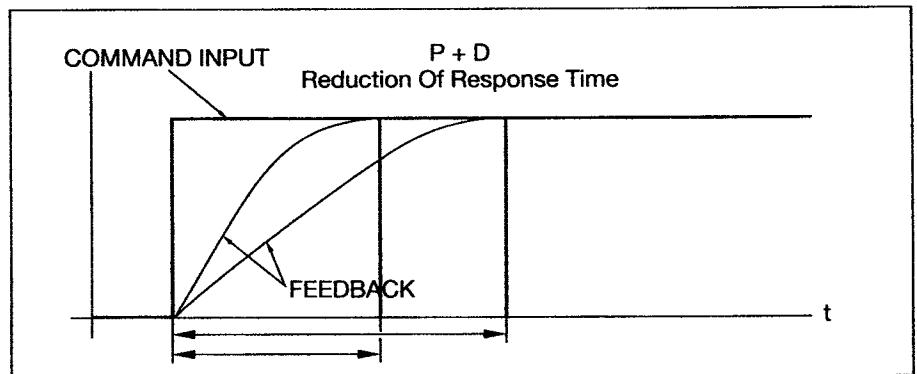

Figure 7. Better response using additional P and D Gain.
- When overshoot has been eliminated, measure the response time once again. You should see a marked improvement, as shown in Figure 7.